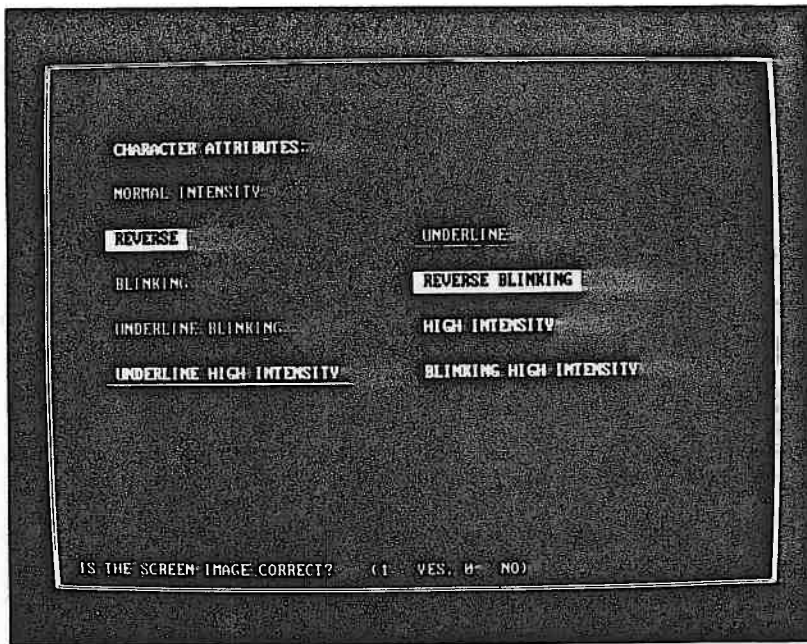

Figure 5-23. Character Attributes Test Pattern
16. The Character Attributes should be displayed on the screen as shown in Figure 5-23.